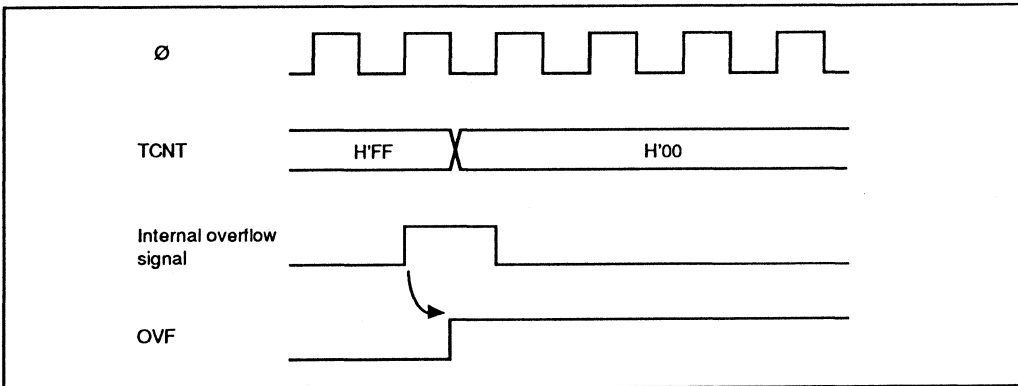

Figure 7-10. Setting of Overflow Flag (OVF)
(1) Setting of TCSR Overflow Flag (OVF): The overflow flag (OVF) is set to “1” when the timer count overflows (changes from H'FF to H'00). Figure 7-10 shows the timing of this operation.